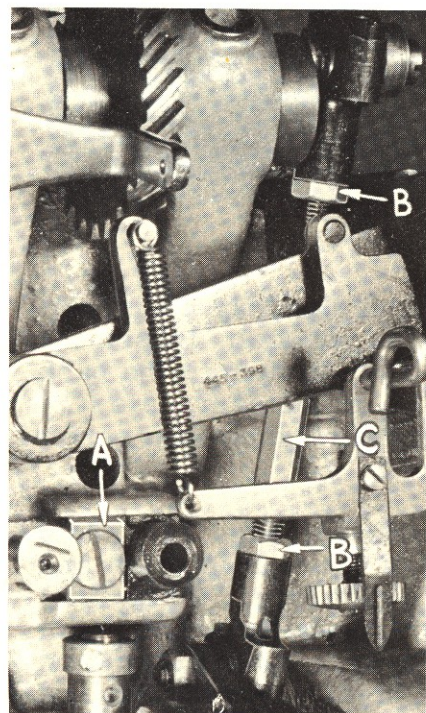

Fig. 5
Turn pulley in operating direction until needle enters needle guide slot in presser foot on left side. There should be $.012$ inch clearance between left side of needle blade and presser foot needle guide slot. Lightly tap the needle vibrating crank adjusting lug (A, Fig. 5) to right or left to secure this adjustment. In the photograph the needle vibrating crank has been removed for clarity.
Turn pulley in operating direction until point of looper is directly over center of needle as needle is returning on its left stroke. The back of needle eye should now be $\frac{1}{16}$ inch from looper point. If adjustment is required at this point, loosen the two locknuts (B, Fig. 5) on ball joint connecting rod (C) and turn rod to secure this setting.